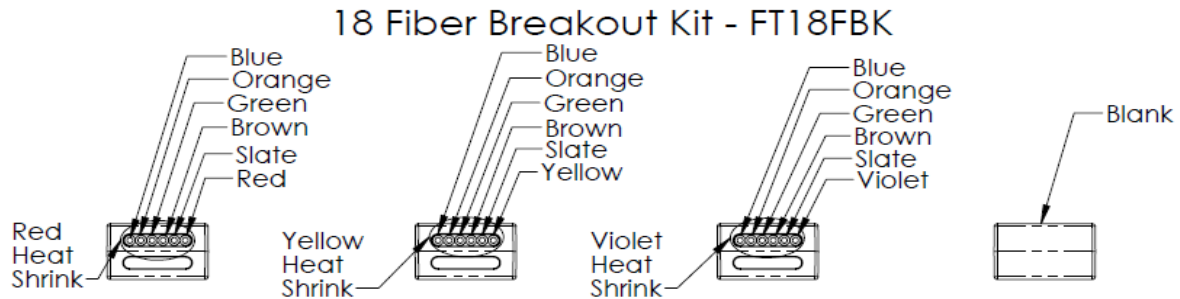

Figure 2
7.1 Prepare the sub unit and Breakout Assemblies first as in Figure 2.